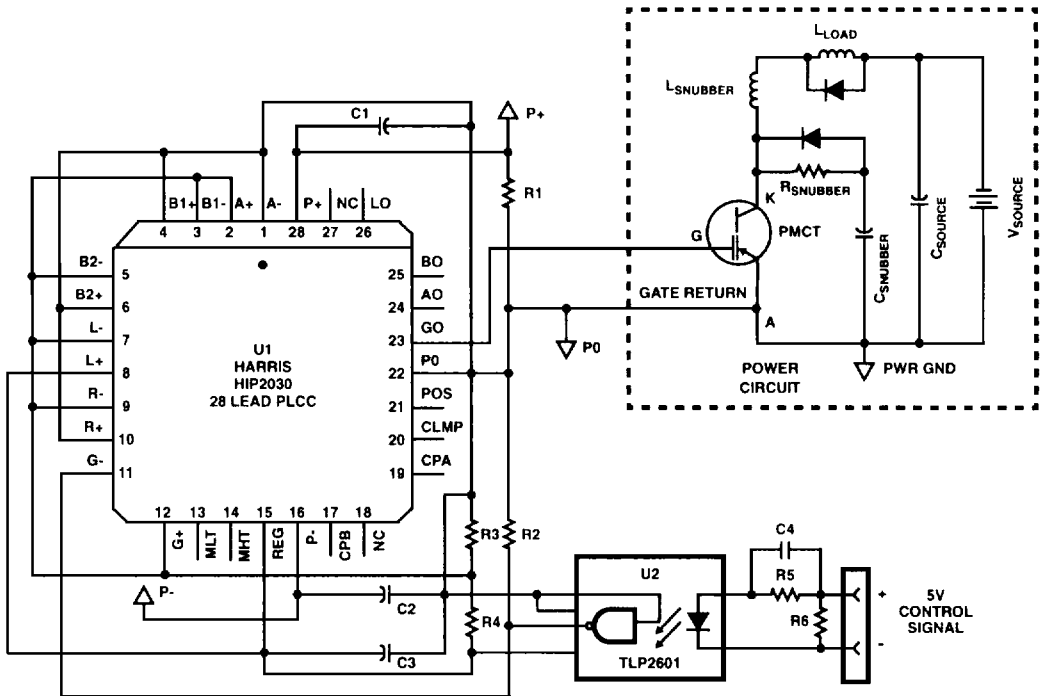

FIGURE 3. HARRIS PHOTO-COUPLED ISOLATED GATE DRIVE
The **Harris Photo-Coupled Isolated Gate Drive** (HPCIGD) circuit, illustrated in Figure 3, contains four subcircuits: a Single Supply DC bias, a Regulated voltage divider reference, a Local Energy Source Capacitance, and a Photo-Couple Receiver.
The **Single Supply DC Bias Circuit**, shown in Figure 3, consists of a single external dropping resistor (R1) connected between pins P+ (U1-28) and P0 (U1-22). When an input voltage of 30V is applied across pins P+ and P- (U1-16), R1 forms a resistive divider network with the input impedance located between pins P0 and P- (RVP0). This allows the circuit designer to adjust the value of R1 to obtain a desired bias voltage between pins P0 and P- (VP0). The value of RVP0 can be calculated by evaluating the equivalent Quiescent Input Impedance (RQ) and the 5V reference impedance (RR) as parallel resistances. The values for R1, RQ, RR, and RVP0 can be determined by using Equations 1(A, B, C, D) as shown in Appendix A, Exercise 1.1.
Q: How do I calculate the value of the series dropping resistor R1, shown in Figure 3?